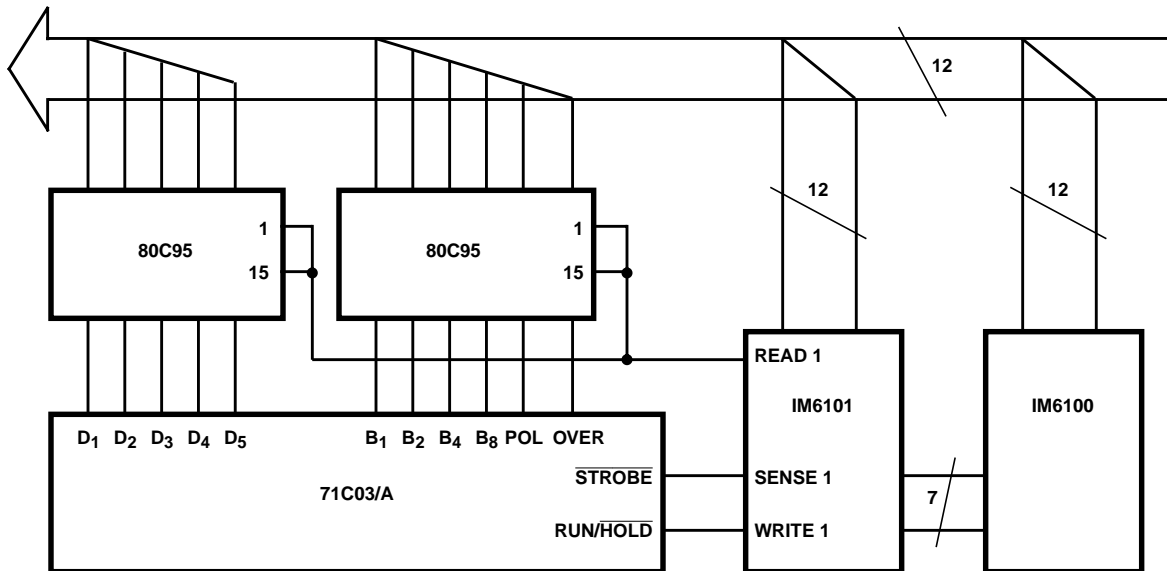

FIGURE 17. IM6100 TO ICL71C03A/71C03A INTERFACE
Circuits to interface the 71C03(A) directly with three popular microprocessors are shown in Figures 17, 18 and 19. The main differences in the circuits are that the IM6100 with its